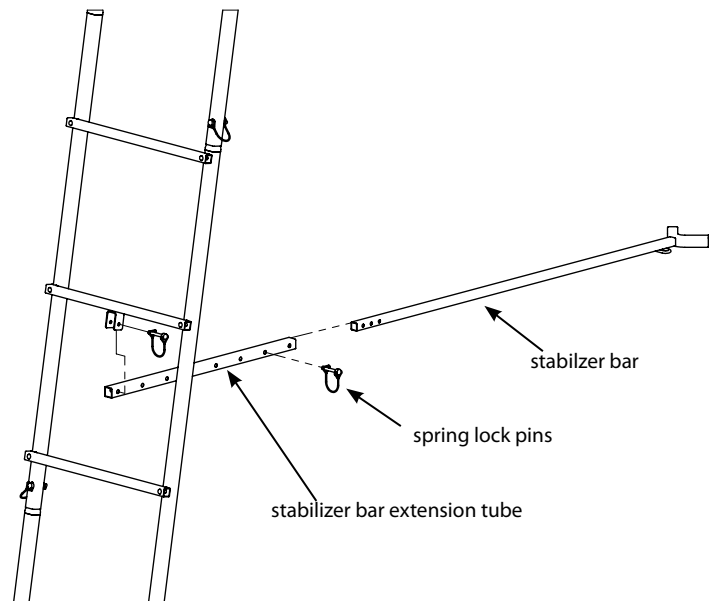

Figure 10
16. a. Attach the stabilizer bar extension tube (1ML23) to the second ladder section mounting bracket using (1) provided spring lock pin. **SEE FIGURE 10.**
b. Slide the stabilizer bar (L17) into the extension tube and attach the two pieces together using (1) provided spring lock pin. Spring lock pin must go through both the extension tube and stabilizer bar at appropriate hole to achieve desired distance from tree. Adjustment in length may be needed when ladder is uprighted later in instructions. **SEE FIGURE 10.**